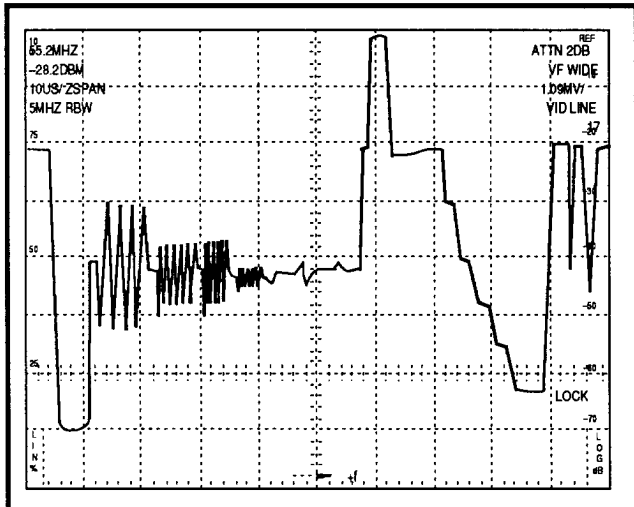

Figure 3-9. Test signal on video line 17.
t. Check that the spectrum analyzer displays the test waveform shown in Figure 3-9. The test signal amplitude may be different.